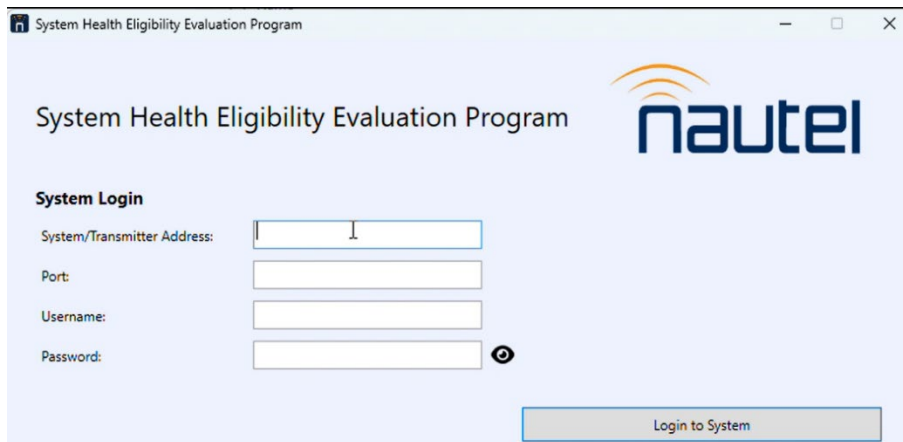

Figure 1: SHEEP login screen
- Run the SHEEP executable file by double-clicking the downloaded file. The screen shown in Figure 1 will display.